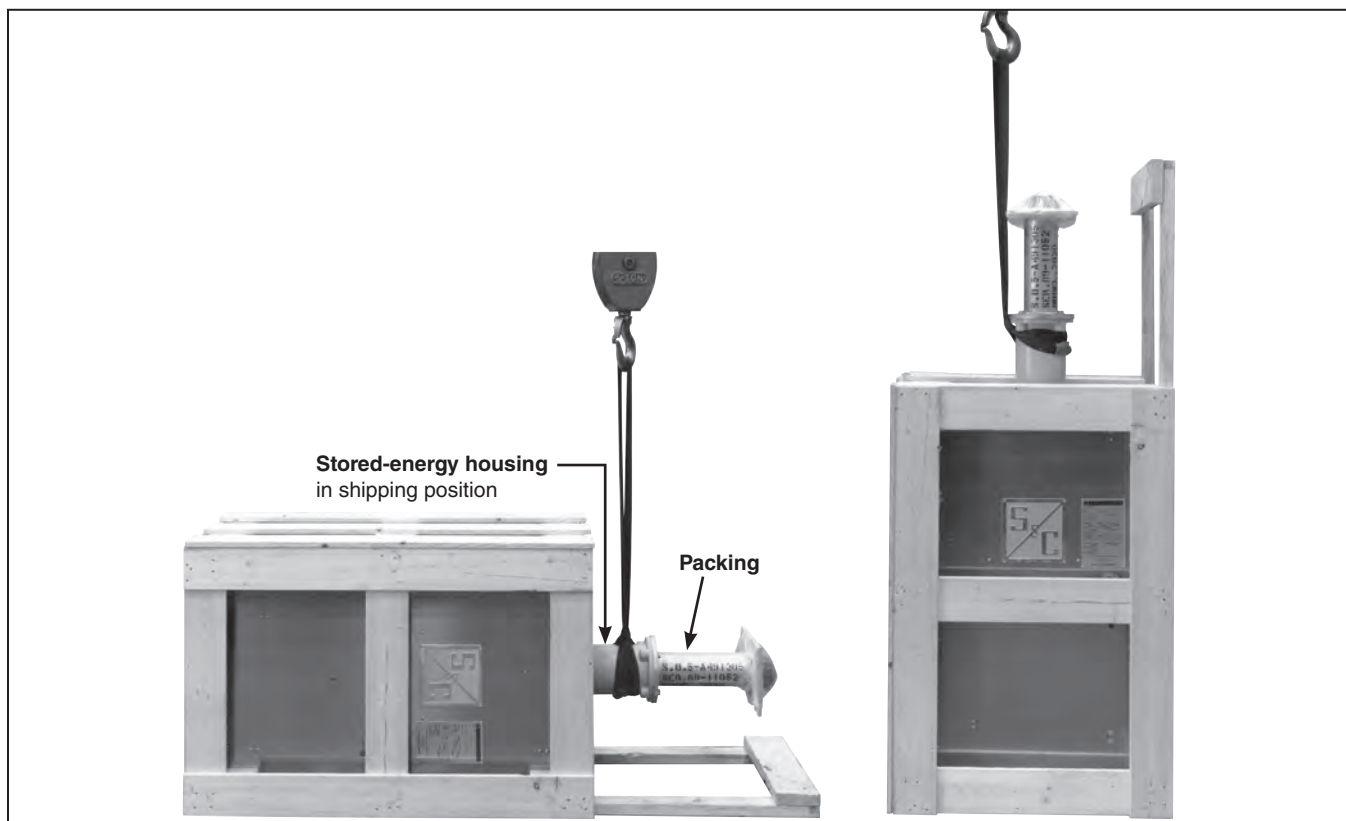
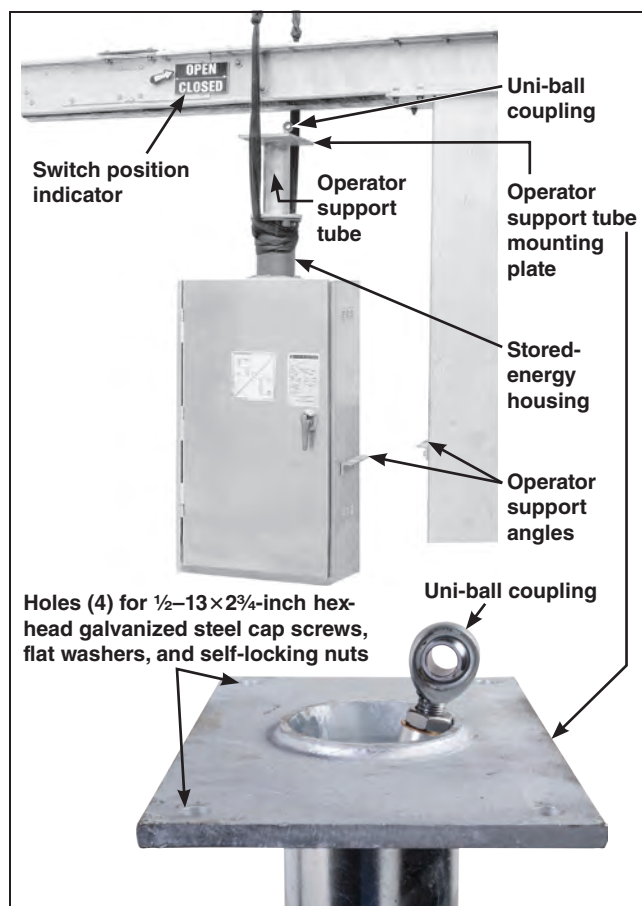

Figure 20. A typical shipment of Series 2000 Operator. Wrap lifting slings around the stored-energy housing to raise the operator to the upright position.
Figure 21. Hoist operator into position below the high-speed base using a lifting crane.
STEP 13. Wrap a lifting sling around the stored-energy housing of the operator, as shown in Figure 20. Carefully raise the operator to the upright position so it rests on its skid, as shown in Figure 20.
STEP 14. Remove the skid and bracing that runs the length of the operator, stored energy housing, and operator support tube. See Figure 20. Also remove the protective cover atop the operator support tube as well as the protective covers on the operator enclosure louvers. See Figure 20 and Figure 21 on page 19.
STEP 15. Reposition the lifting sling around the front of the stored-energy housing and wrap another lifting sling around the back of the stored-energy housing, as shown in Figure 21. Face the operator door the same direction as the Switch Position indicator on the high-speed base. Hoist the operator into place.
STEP 16. Attach the operator support angle to the appropriate mounting pedestal using two $\frac{5}{8}$ -11 x 14 hex-head galvanized steel cap screws, four flat washers, and two self-locking hex nuts. Refer to the catalog drawing for exact placement. See Figure 21. Attach the operator support plate to the angle on the operator and the angle on the mounting pedestal using four $\frac{1}{2}$ -13 x $1\frac{1}{2}$ hex-head galvanized steel cap screws, flat washers, and self-locking nuts furnished. Lubricate the bolts to facilitate tightening. Securely tighten the screws. On circuit-switchers with two or three mounting pedestals, insert the hole plugs furnished into all unused holes in the pedestals.